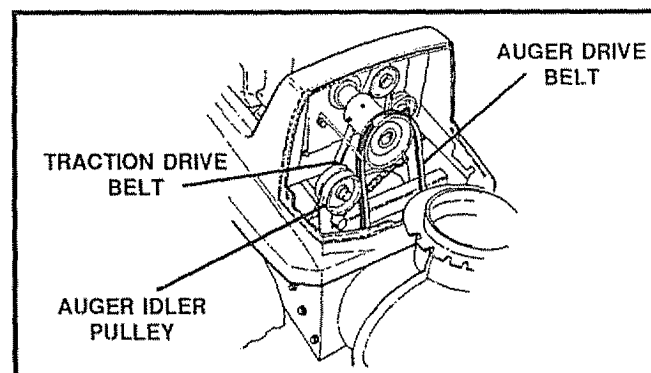

FIG. 24
TRACK DRIVE BELT (See Fig. 24)
AUGER DRIVE BELT (See Fig. 24)
- Loosen the nut on the idler pulley (See Fig. 24) and move the pulley toward the belt about 1/8".